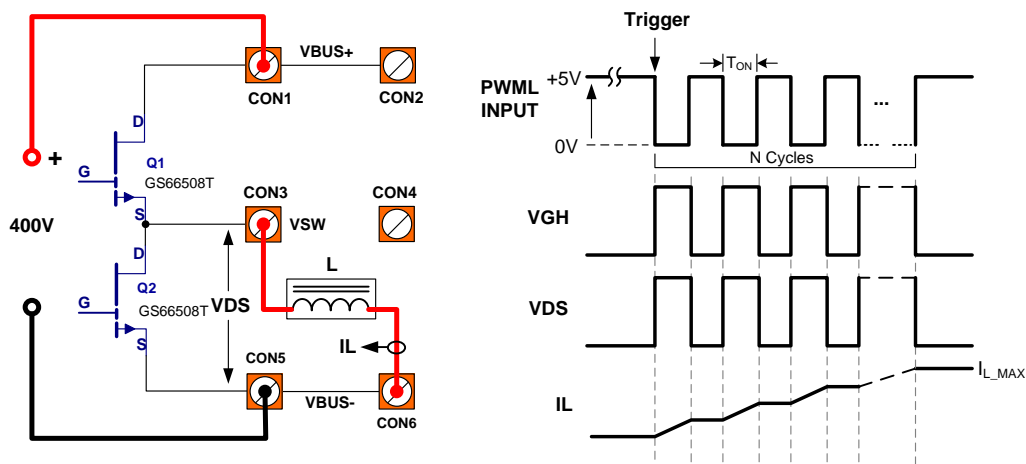

Figure 10 - Pulse test mode and waveforms
Figure 10 shows an example of the PWM input signal and pulse test switching waveforms for the pulse test mode. Since a bootstrap circuit is used to create the high side gate voltage, the low side device Q2 must be turned on first before the first testing pulse to ensure that the high side gate driver is powered up. This can be implemented by setting the signal generator output to “Inverse” mode on the signal so the PWML is always high before and after the testing pulses. It is recommended to use a single trigger burst mode and manually trigger the signal generator for each test to avoid any heating of the devices.
3. Connect 50Ω impedance output from signal generator to **J5** (PWML). Set up the signal generator in pulse and single trigger burst mode to generate signals as shown in **Figure 10**. Set Ncycle = 5 and use the Eq.1 to calculate T_{ON} to ensure the maximum switching current is $\leq 30A$ at 400VDC.